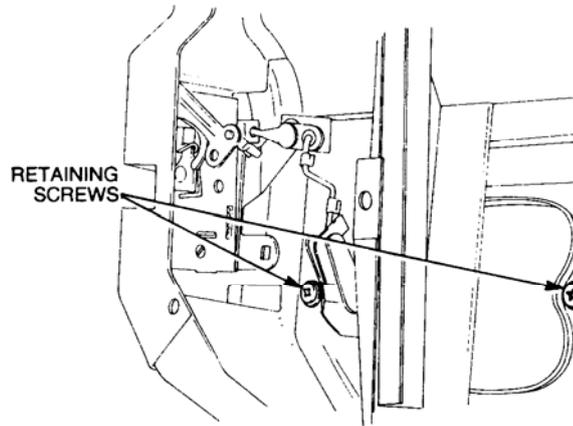

Figure 18 Rear Door Lock Removal
- z.** Remove the screws securing the outer door handle to the door (refer Figure 18).
- u. Install the door lock assembly in the door frame (refer Figure 18).